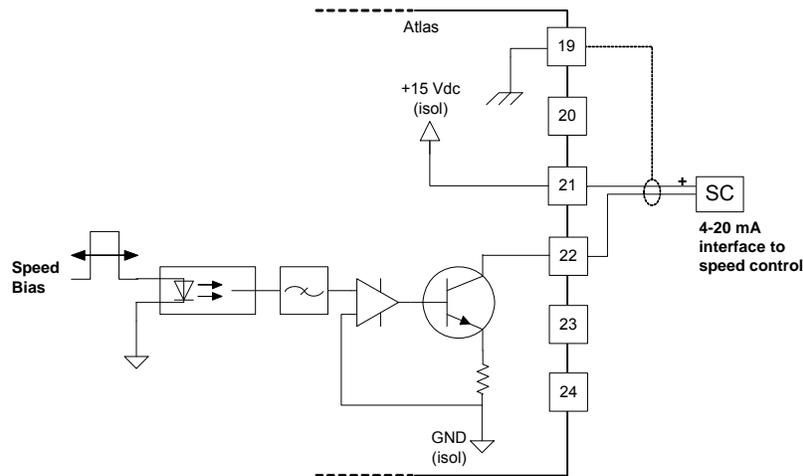

Figure 6-10. Speed Bias Output Interface to the PowerSense Board (wiring example, configured for 4–20 mA)
- Refer to Figures 6-10 and 6-11 for Speed Bias Output wiring.